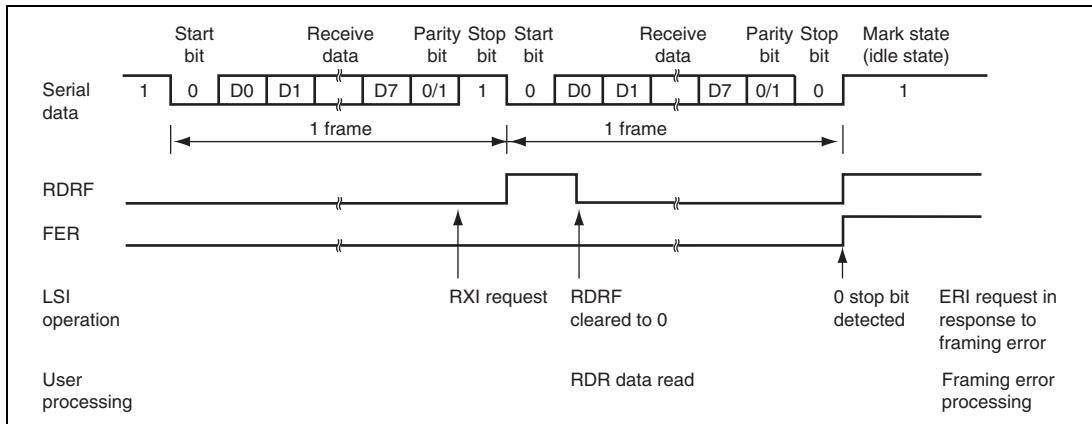

**Figure 15.6 Sample Serial Transmission Data Flowchart (Asynchronous Mode)**
6. Figure 15.6 shows a sample flowchart for transmission in asynchronous mode.